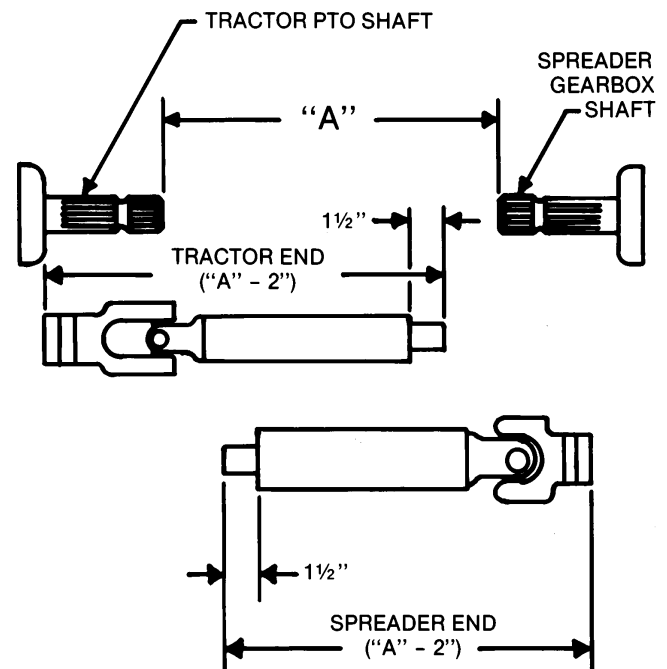

FIGURE 1
(REFER TO FIG. 1)
Measure the distance between the ends of the two shafts (Dimension "A", Figure 1). Each half of the PTO should be equal to Dimension "A" minus two (2) inches.